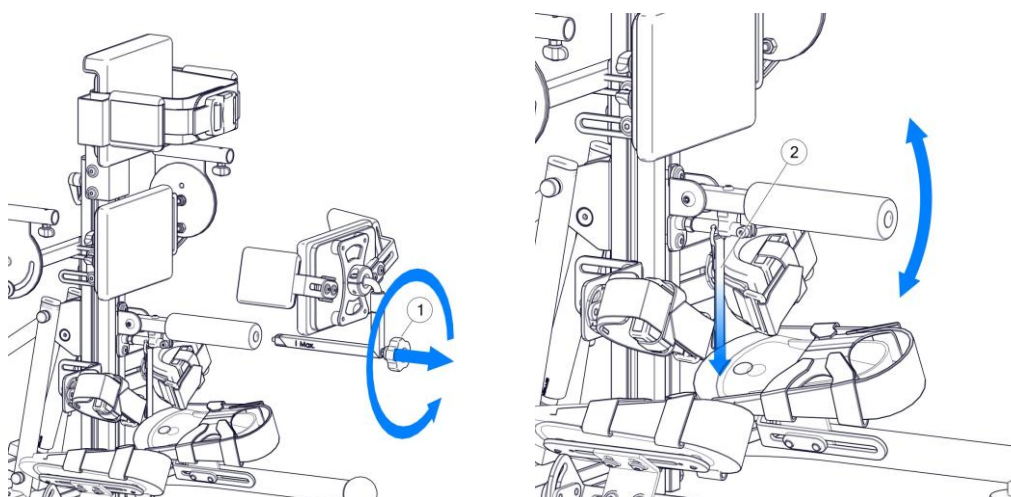
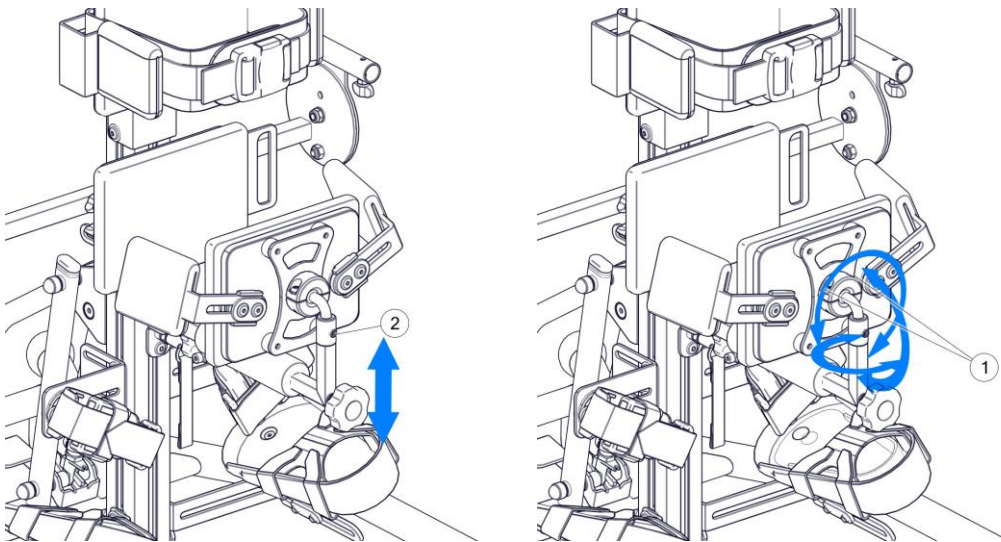

Fig. 28
Fig. 29
See Figure 28
After placing the patient in the device, fix the back support bracket and block it. The back support bracket enables precise adjustment within all planes. After setting the depth of the back support, tighten the knob (1) (Fig. 28) and hence block the possibility to pull out the back support. The maximum distance of the depth of the back support is indicated with the "MAX" mark. The height of the back support may be adjusted by loosening the screw (2) (Fig. 29). After adjusting the height of the back support, block the back support by tightening the screw (2) to the limit. Precise adjustment of the plane of the cushion supporting the back can be obtained through loosening the screws (1) (Fig. 28), and then it is crucial to adjust the location of the back support and tighten the screws once again (1).
See Figure 29